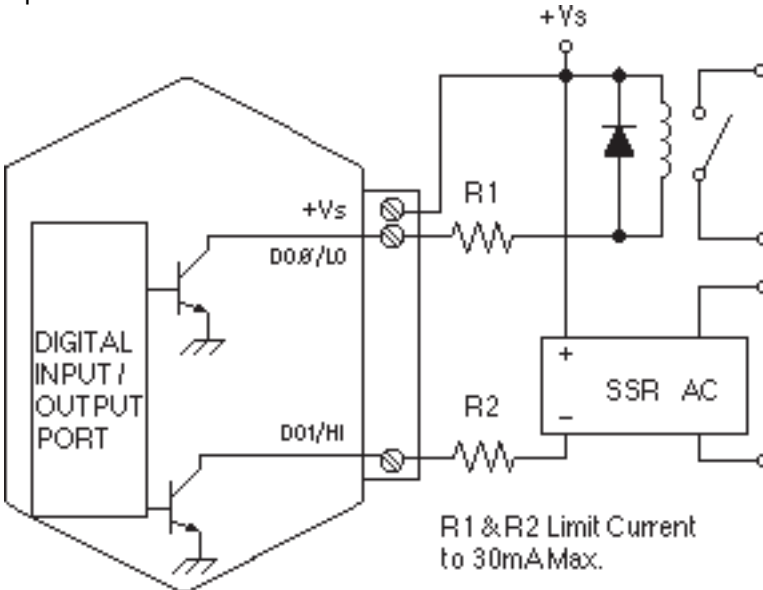

Figure 6.1 Digital Outputs Used With Relays
A digital output consists of an open-collector transistor controlled by the host, using the Digital Output (DO) command (See Figure 6.1). The number of digital outputs implemented depends on the specific D1000 model number. Most sensor modules contain two digital outputs and the D1701/2 has eight digital outputs. The open-collector configuration is used to provide maximum versatility in interfacing to solid state relays (SSR's) or to standard logic levels such as TTL or CMOS. Each digital output can sink up to 30mA and can withstand up to 30V. Power in the transistor must be limited to 300mW. The emitter of each transistor is tied to the GND terminal on the input connector.
A typical connection of a digital I/O output is shown in Figure 6.1. In this case, a solid state relay is controlled by the D1000 module. The SSR can then be used to control AC power to alarms, heaters, pumps, etc. A typical connec-